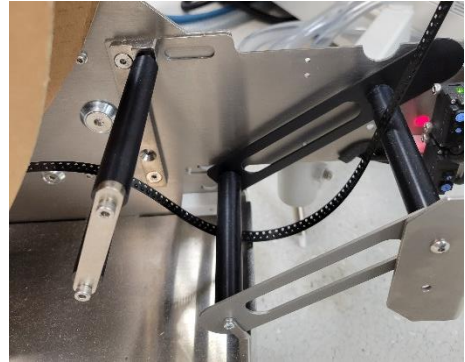

Figure 3
11. Direct carrier tape through lower rung directly underneath carrier tape roll as shown in Figure 3.